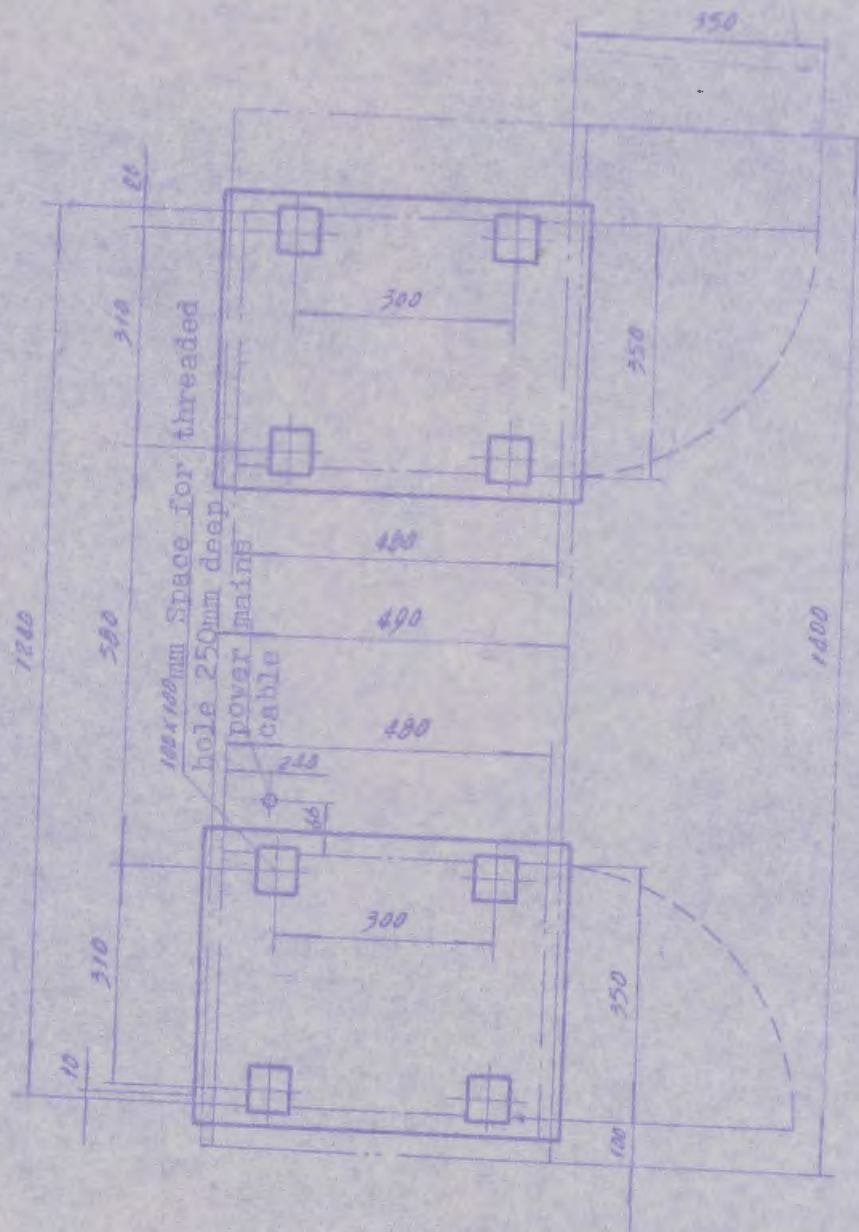

Fig. 14 Foundation Plan for CG630A
- 9.3 The installation dimensions of geared head lathe CO630A is referred to Fig. 14.